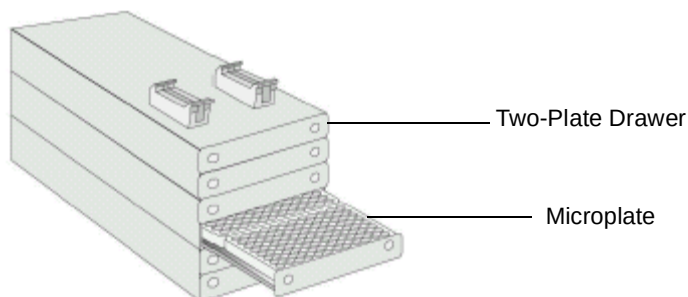

Figure 1-5 6-Drawer Stack
- **6-Drawer Stack** – Holds up to 12 microplates, two per drawer in six drawers (Figure 1-5).